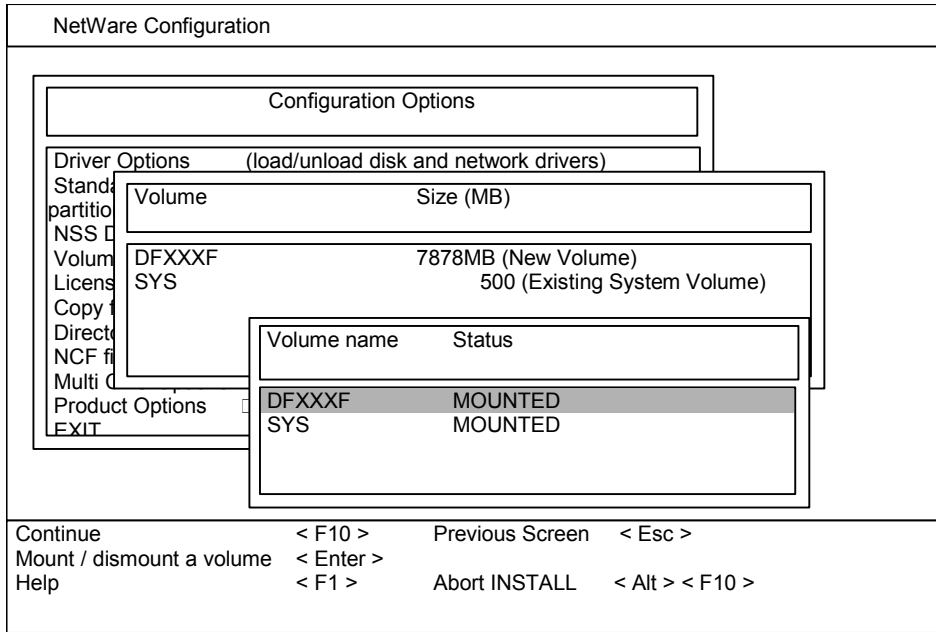

Figure 3.19 Confirming the MOUNTED Status of the New Volume(s)
- a) If you chose to mount all volumes, the system mounts all volumes and then displays the mount status for all volumes (see Figure 3.19). Confirm that the status for all new volumes is **MOUNTED**.